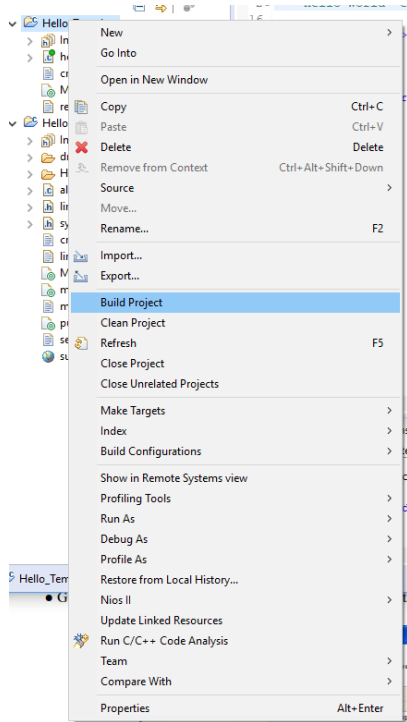
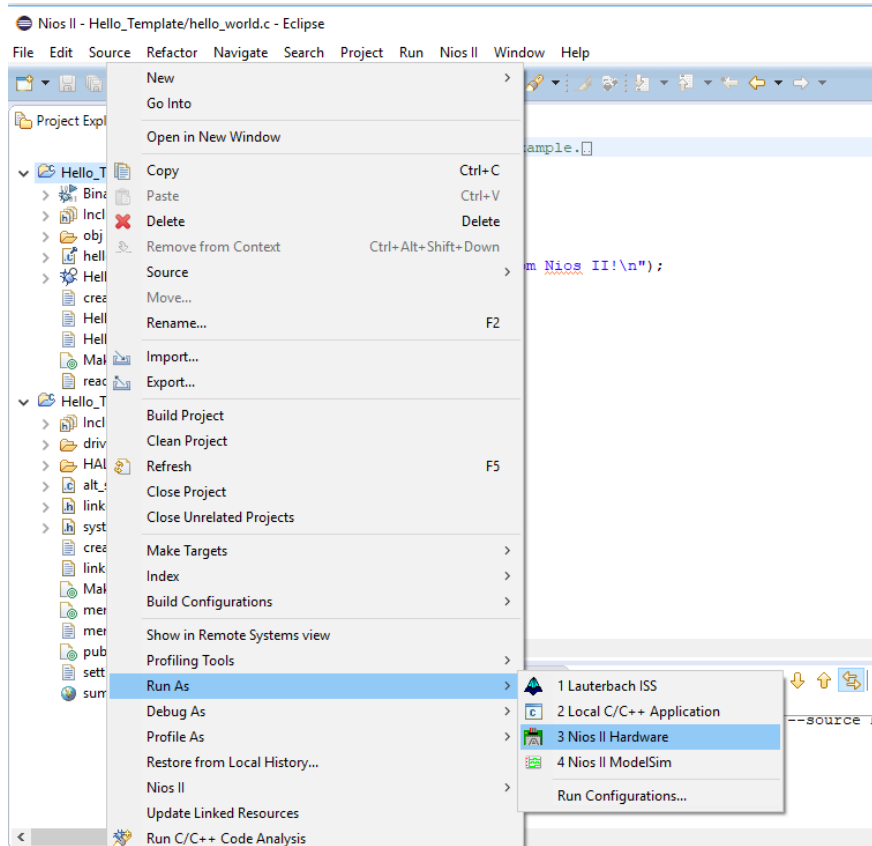

Figure 3-6 Building Project
Figure 3-7 Running Nios Project
- 6.) Now we will need to build and run this program. Right click on the **Hello_Template** → **Build Project** as shown in Figure 3-6. Next we will run this program by right clicking again on **Hello_Template** → **Run As** → **Nios II Hardware** as shown in Figure 3-7.